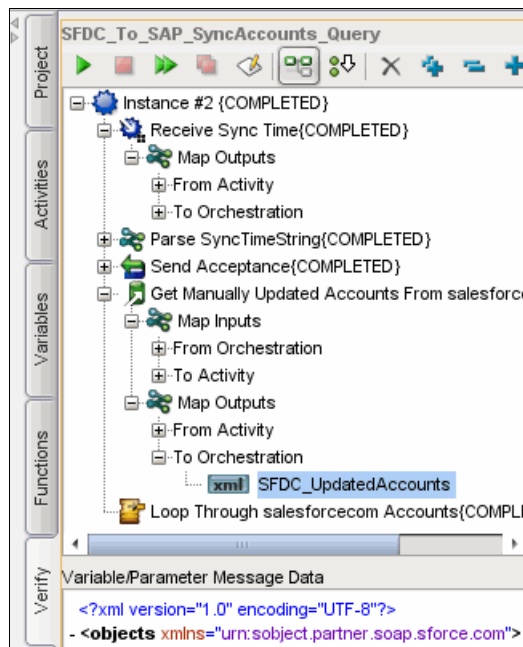

Figure 10-115 Test with query returned no record
5. View the output within Studio and notice that none of the accounts that were synchronized from SAP to Salesforce.com are synchronized back to SAP, as shown in Figure 10-115.